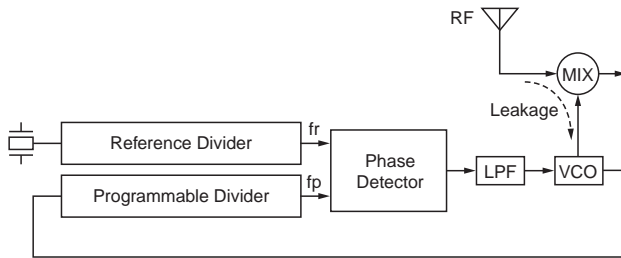
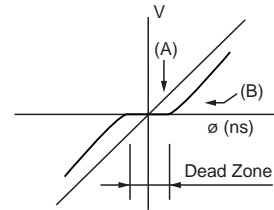

Figure 11
Figure 12
The phase comparator compares  $f_p$  with a reference frequency ( $f_r$ ) as shown in Figure 11. Figure 12 shows the characteristics of an ideal phase comparator, which outputs an output voltage (A) that is proportional to the phase difference  $\phi$ . However, in an actual IC, a region (dead zone) in which minute phase differences cannot be detected occurs due to internal circuit delays and other factors. To implement an end product with a high S/N ration, the dead zone should be as small as possible.